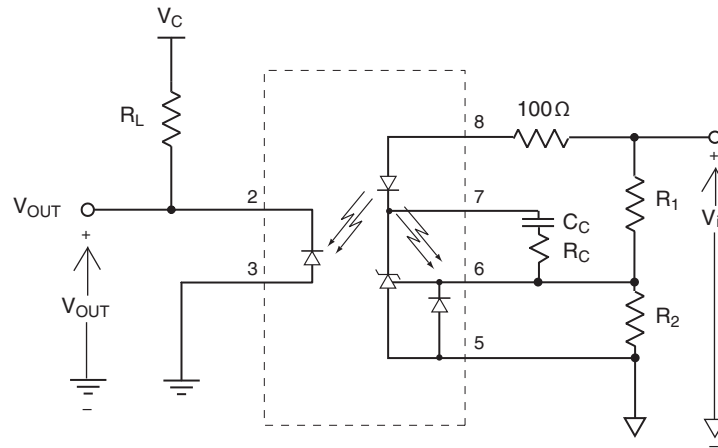

Fig. 6. Power Supply Feedback Application Circuit
2. The dynamic impedance is defined as  $|Z_{OUT}| = \Delta V_{COMP}/\Delta I_{LED}$ , for the application circuit in Figure 6,  $|Z_{OUT}| = K_1 R_1$
Setting the gain for the LIA120 is accomplished simply by setting two resistors. The application circuit in Figure 6 shows a resistor divider feeding the FB pin, so the operating conditions for the gain are governed by: